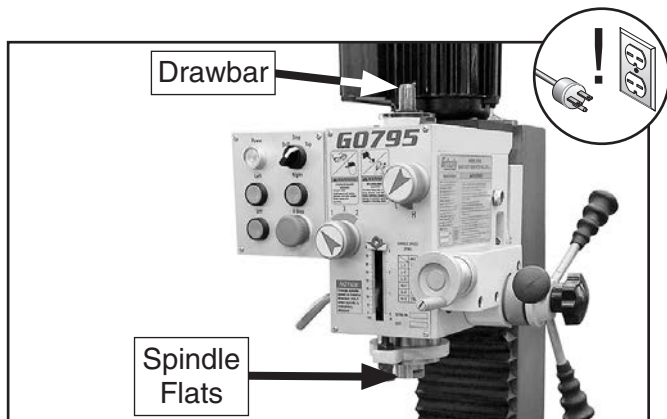

Figure 23. Location of spindle flats and drawbar.
2. Remove drawbar cap, as shown in **Figure 23**.
6. Place 16mm wrench over drawbar, then use spindle wrench on spindle flats (see **Figure 23**) to keep spindle from rotating.